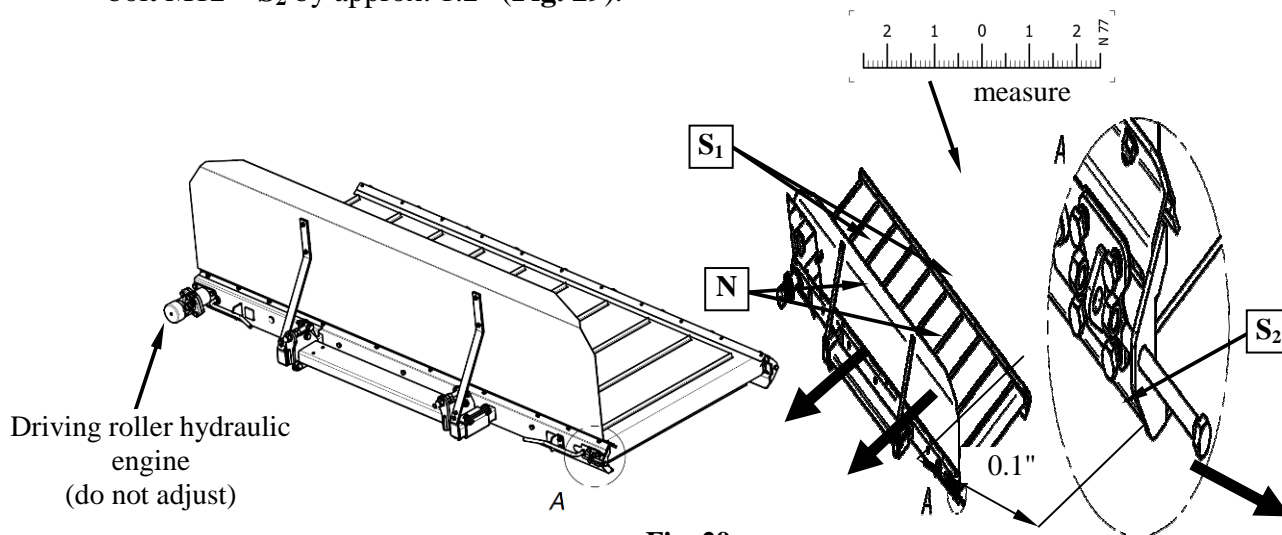

Fig. 29.
2. Loosen tightening roller mechanism – bolts M10 – S_1 , nuts, M12 – N_2 and loosen adjustment bolt M12 – S_2 by approx. 1.2" (Fig. 29).